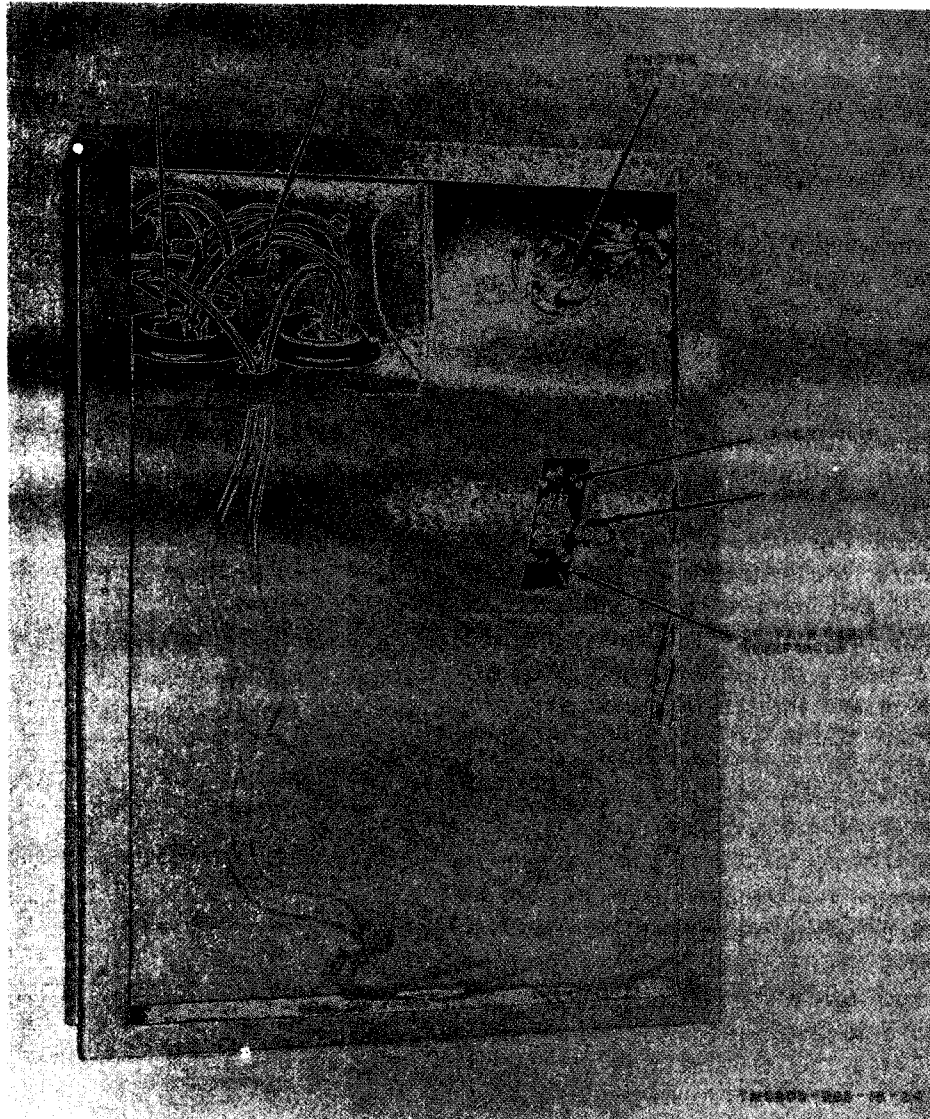
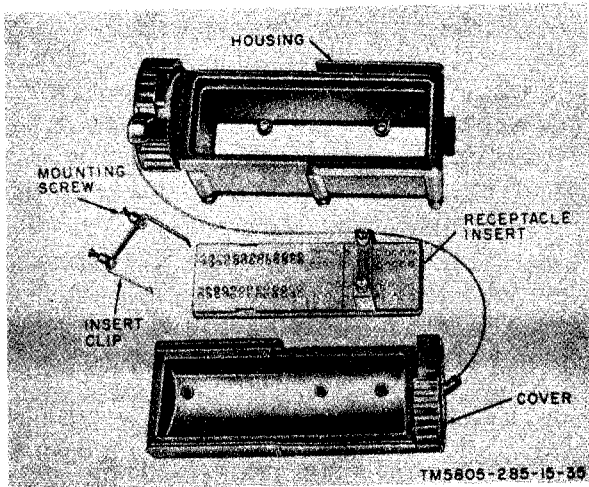

Figure 37. Power and signal entrance box, rear view.
Figure 38. Cable receptacle, 26-pair, partially disassembled.
(2) Remove the mounting screws that secure the insert clips (fig. 37 and 38).
(3) Unfasten the cable clip nearest the 26-pair cable receptacle mounting.
(4) At the power and signal entrance panel, remove the 26-pair cable receptacle cover.
(5) Lift the receptacle insert (fig. 38) from the front of the 26-pair cable receptacle housing.
(6) Tag and unsolder the wires from the receptacle insert.
- (2) Carefully place the insert in the 26-pair cable receptacle housing, (fig. 38).